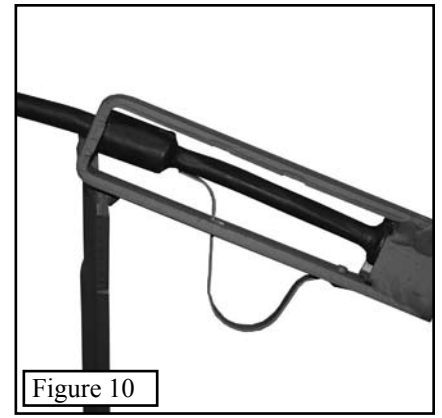

Figure 10
Step 4. Your cable bracket should now look like **Figure 10**. **WARNING:** If the QuickDraw cable spring does not lock into place behind the cable stop, **DO NOT USE THE TREESTAND!** Contact Summit to obtain the proper corrective action.